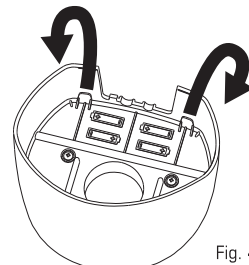

Fig. 44
Check batteries. Make sure batteries are fully inserted.	Display should flash within 5 seconds after installing batteries. -Check orientation, p. 10, Fig. 44. -Replace batteries
1. Turn Top Shroud upside down on a soft cloth. Open battery compartment door by gently pulling two tabs to fold the door back (Fig. 44).